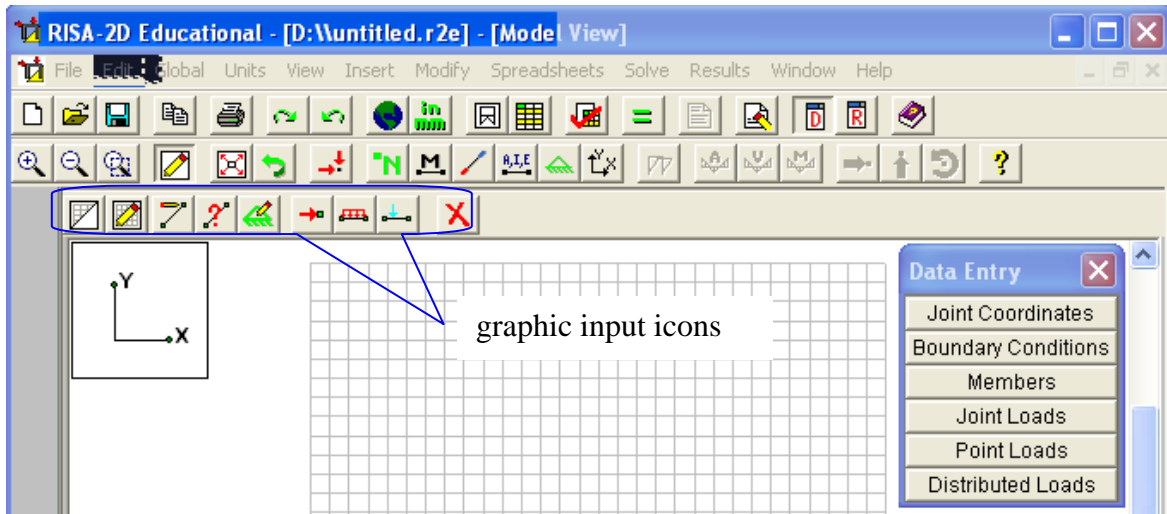

Figure 16
- (8) Note that creating the model and specifying loading as described in step (3) through step (6) can also be performed graphically. Figure 16 shows the icons that can be used for this purpose. For example, clicking on the third icon () allows you to specify both the joints and members. The support conditions can be specified by clicking on , and the loadings can be specified by clicking on either one of   .